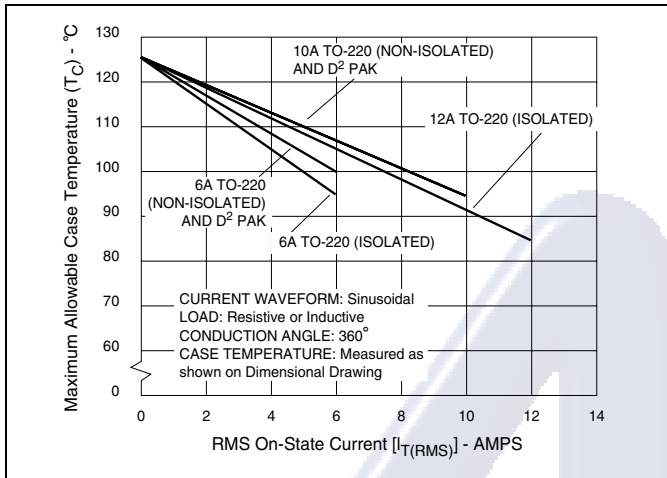
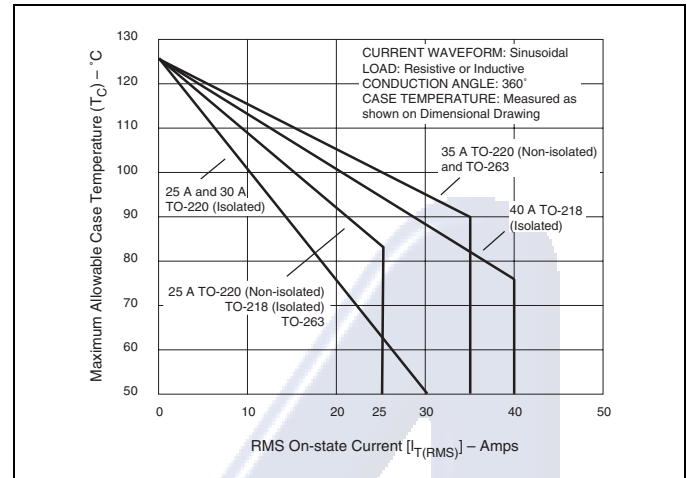
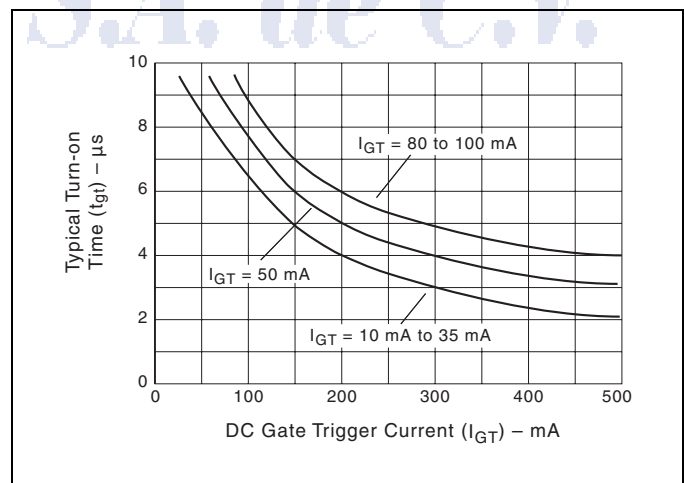

Figure E4.1 Maximum Allowable Case Temperature versus On-state Current (6 A to 12 A)
Figure E4.4 Maximum Allowable Case Temperature versus On-state Current (25 A to 40 A)
Figure E4.12 Turn-on Time versus Gate Trigger Current (Typical)
- See Figure E4.1 through Figure E4.4 for current rating at specific operating temperature and Figure 4.16 for free air rating (no heat sink).
- (10) See Figure E4.12 for t_{GT} versus I_{GT} .
- (11) See package outlines for lead form configurations. When ordering special lead forming, add type number as suffix to part number.
- (12) Initial on-state current = 400 mA dc for 16 A to 40 A devices and 100 mA for 6 A to 12 A devices.
- (13) See Figure E4.1 through Figure E4.4 for maximum allowable case temperature at maximum rated current.
- (14) Pulse width $\leq 10 \mu s$; $I_{GT} \leq I_{GTM}$
- (15) For 6 A to 12 A devices, $R_L = 60 \Omega$; 16 A and above, $R_L = 30 \Omega$
- (16) 40 A pin terminal leads on K package can run 100 °C to 125 °C.
- (17) Alternistor does not turn on in Quadrant IV.
- (18) $T_C = T_J$ for test conditions in off state
- (19) $I_{GT} = 200$ mA for 6 A to 12 A devices and 500 mA for 16 A to 40 A devices with gate pulse having rise time of $\leq 0.1 \mu s$.
- (20) Minimum non-trigger V_{GT} at 125 °C is 0.2 V.